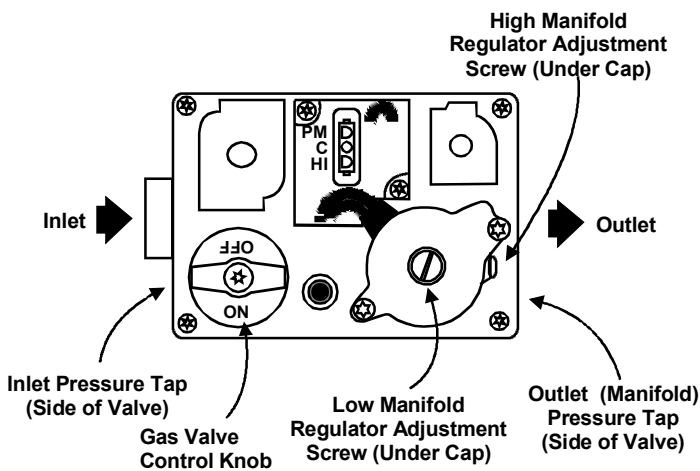

Figure 33
- Turn the gas control knob clockwise to the Off position (Figure 33). The knob should turn easily. Do not use excessive force.
- If gas can be smelled following the five minute waiting period in Step 7, follow the instructions on Page 2 of this manual. If gas can not be smelled, turn the gas control knob counterclockwise to the On position (Figure 33). The knob should turn easily. Do not use excessive force.
- Connect a water manometer or adequate gauge to the "inlet pressure tap" of the gas valve (See Figure 33).
Connect a "U-Tube" manometer having a scale range from 0 to 12 inches of water to the tapped opening in the gas valve. See "Outlet (Manifold) Pressure Tap" in Figure 33. Check your measurements. For natural gas, the manifold pressure must be between 3.0 and 3.6 inches water column (3.5 nominal). The low stage manifold pressure must be between 1.6 and 2.2 inches water column (1.9 nominal). For propane gas, it must be between 9.7 and 10.3 inches water column (10.0 nominal). The low stage manifold pressure must be between 5.7 and 6.3 inches water column (6.0 nominal). Any major changes in flow should be made by changing the size of the burner orifice.
3. Turn the gas control knob clockwise  to the "Off" position (Figure 33). The knob should turn easily. Do not use excessive force.